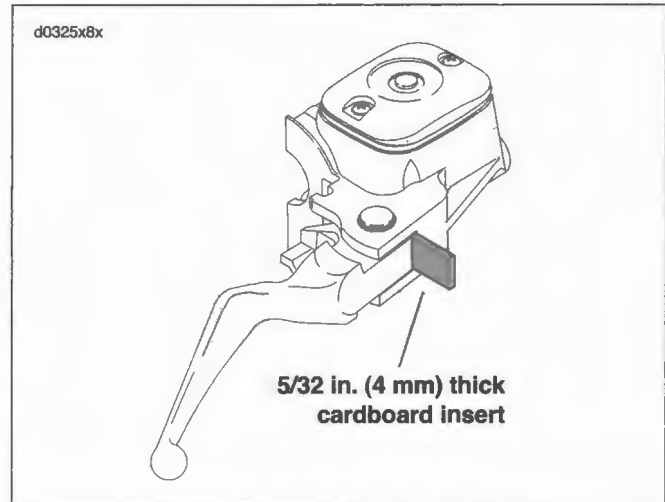

Figure 8-95. Install Cardboard Insert
1. See Figure 8-95. Place the cardboard insert between the brake lever and lever bracket.